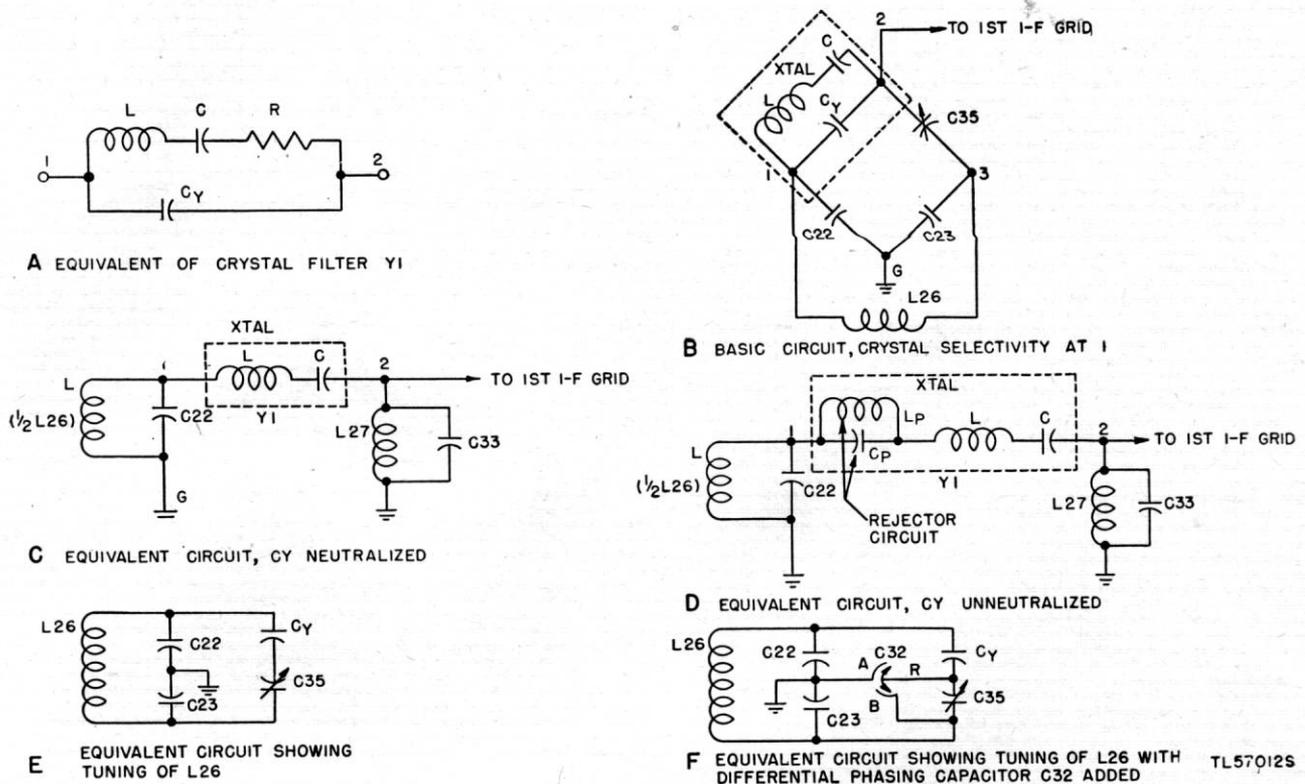

Figure 28. Radio Receiver BC-779-B, functional and equivalent diagrams of crystal filter circuit.
## 61. Crystal Filter (fig. 28)
a. EQUIVALENT CRYSTAL CIRCUIT. The equivalent electrical circuit of a crystal is shown in "A," figure 28. The circuit, and hence the crystal, are resonant at two frequencies: The frequency at which the reactance of L is equal to the reactance of C (series resonance), and the frequency at which the effective reactance of L-C (in series) is *inductive* and *equal* to the capacitive reactance of  $C_Y$  (parallel resonance). At the series-resonant frequency the crystal acts as a low-impedance connection between 1 and 2. At the parallel-resonant frequency the crystal acts as a high impedance between 1 and 2.
b. BASIC FILTER CIRCUIT ("B," fig. 28). Capacitors C22 and C23 (100 mmF each) are connected in series across the secondary of i-f input transformer L26, and their junction is grounded to provide a midpoint connection in the resonant circuit L26-C22-C23. Consequently, the capacitor voltages are always of equal amplitude but 180° out of phase. Phasing capacitor C35 (1.5 to 5 mmF) is connected between 3 and 2, and the crystal is connected between 1 and 2.
c. NEUTRALIZATION OF  $C_Y$ . Capacitors C22, C23, C35, and  $C_Y$  (the capacity between the crystal holder plates) form a capacity bridge; the input is applied to 1 and 3, the output is taken from 2 and G. When capacitor C35 is adjusted so that its capacitance is equal to that of  $C_Y$ , the voltage coupled from 3 through C35 to 2 is equal and opposite to the voltage coupled from 1 through  $C_Y$  to 2. Under this condition  $C_Y$  is neutralized and the crystal acts as a series-resonant circuit only ("C," fig. 28). Since the crystal is resonant at the intermediate frequency, there is (in effect) a direct connection between 1 and 2. As indicated in "C," figure 28, only the voltage across C22 (one-half the secondary voltage) is applied through the crystal to the grid circuit of the first i-f stage.
tance of  $L-C$  and the capacitive reactance of  $C_Y$ . For simplicity the parallel-resonant circuit is denoted as rejector circuit  $L_P C_P$  in "D," figure 28.  $L_P$  and  $C_P$  denote the effective inductance and capacitance at the parallel-resonant frequency.  $L$  and  $C$  indicate the effective inductance and capacitance of the crystal at the series-resonant frequency, in this case the 465-kc i.f. In other words, unless  $C_Y$  is neutralized, the crystal acts simultaneously as a parallel- and series-resonant circuit. The parallel-resonant circuit  $L_P C_P$  has no effect on the 465-kc i.f. but presents a high impedance to, and therefore rejects, the frequency to which  $L_P C_P$  is resonant.  $L$  and  $C$  present extremely low impedance to the 465-kc i-f signal voltage and high impedance to voltages at different frequencies. *With underneutralization the resonant frequency of  $L_P C_P$  is higher than 465 kc.*
*f. CAPACITOR  $C_{32}$ .* Capacitor  $C_{35}$ , in series with capacitance  $C_Y$ , is across  $L_{26}$  and affects its tuning ("E," fig. 28). To avoid the detuning effect and to enable shifting the rejection frequency to either side of the i.f., differential PHASING capacitor  $C_{32}$  ("F," fig. 28) is used in the radio receiver. Stator sections A and B are so arranged that, as rotor R is turned out of one stator into the other, the capacitance of the first *decreases* by the same amount that the capacitance of the second *increases*. Thus, whether the rotor is entirely engaged in stator A, is at a midpoint, or is entirely in stator B, the effective capacitance across A-B, and therefore across  $L_{26}$ , remains constant. Assume that  $C_{32}$ , the PHASING capacitor, is set at the arrow position of the PHASING control on the front panel and
(2) CRYSTAL SELECTIVITY switch at 1. When CRYSTAL SELECTIVITY switch SW7 is placed at 1, the short is removed from the crystal. If the secondary of L26 and the parallel-resonant grid circuit, L27-C33, are tuned to 465 kc, each is the equivalent of a high resistance in series with the equivalent series-resonant circuit of the crystal ("C," fig. 28). Consequently, the *Q* and therefore the selectivity of the series-resonant (crystal) filter circuit is reduced, and the bandwidth is several kilocycles wider than that of the crystal *alone*.
(3) CRYSTAL SELECTIVITY at 2, 3, 4, or 5. Advancing the CRYSTAL SELECTIVITY switch